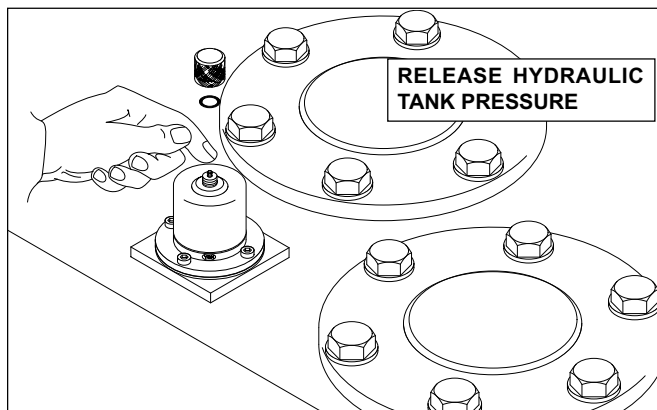

FIGURE 4.5B
1. Remove cap and depress valve to release air pressure from the reservoir. See Figure 4.5B.